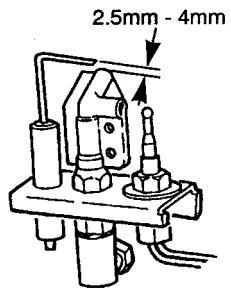

Fig. 12 Spark Gap
- (a) The electrode sleeve is pulled up on the electrode and the electrode gap is correct (Fig. 12).
ASSEMBLY (Fig.12)